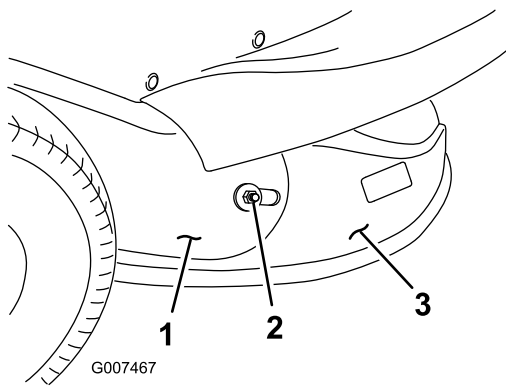

Figure 18
- Remove the nut and outer washer that secure the discharge chute to the discharge tube (Figure 18).
14. Install the nut and outer washer that secure the discharge chute to the discharge tube (Figure 18).